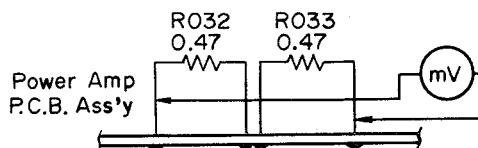

Fig. 4.3.1
- (1) Connect a DC Mili-voltmeter across R032, R033 on the Power Amp. P.C.B. as shown in Fig. 4.3.1.
- (2) Connect an 8-ohm 110 watts or more wattage load resistor and a distortion meter to the Speaker Terminal.
- (3) Adjust VR001 on the Power Amp. P.C.B. to obtain about 10 mV on the DC Mili-voltmeter. (Adjustment should be made for each channel.)
- (4) Connect an Oscillator to the Main Amplifier Input Jacks.
- (5) Check to insure whether the distortions at 1 kHz and 10 kHz satisfy the following specifications (output wattage should be 105 watts in each frequency):